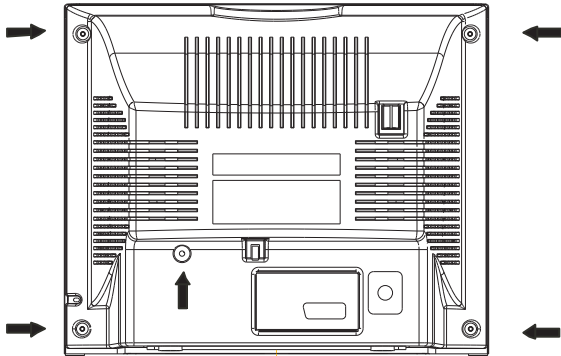

Figure 1. Cabinet Back Removal
1. Refer to Figure 1, remove 7 screws.